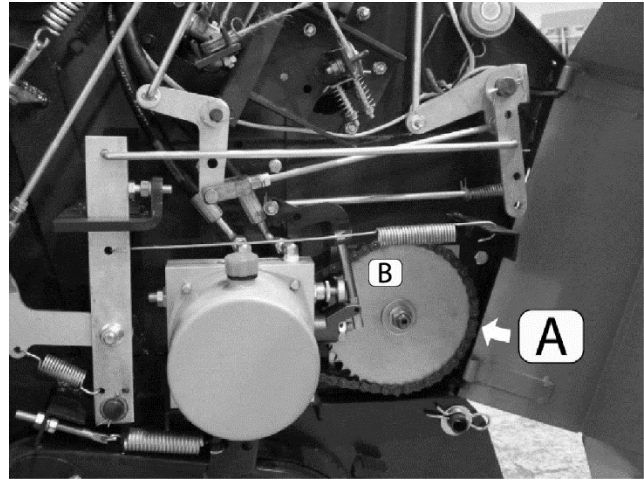

Figure 40 Right side of baler (hydraulic pump chain)
Tension of the hydraulic power pack drive chain (Figure 40, A) is adjusted by moving the position of the power pack with respect to the drive sprocket (B). Optimal tension will result in **approximately 3/16 of an inch (5mm) of deflection**.